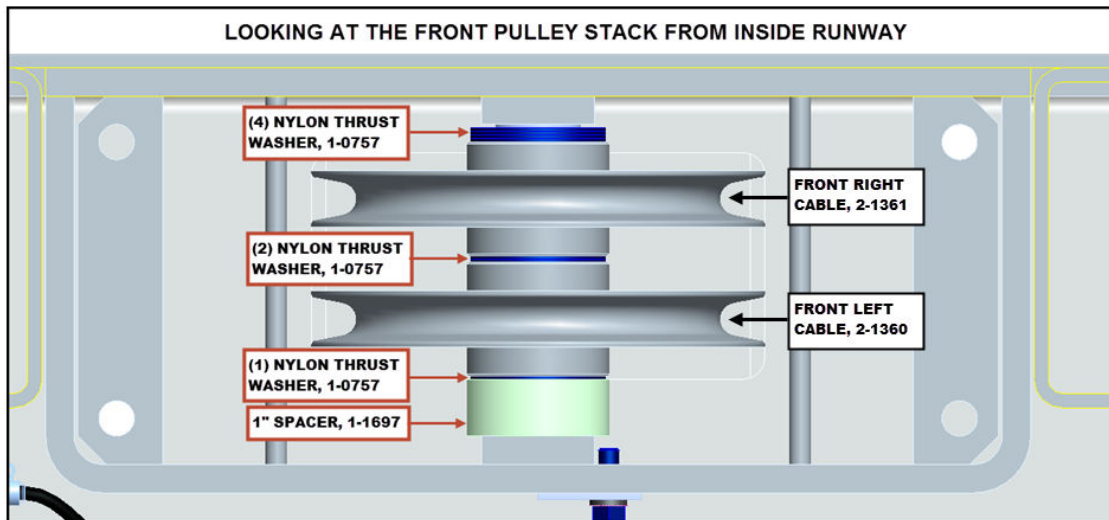
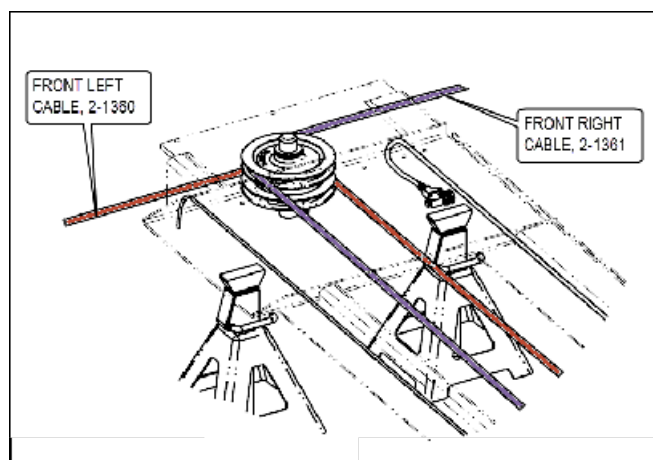

Figure 11. Front Pulley Stack Assembly
Figure 12. Front Right and Rea Left Cable Installed at Front
11. Use **Figure 11** as reference during the front pulley stack and cable assembly.
13. Referring to **Figure 11** and **Figure 12**, assemble the pulley stack with cables as shown.